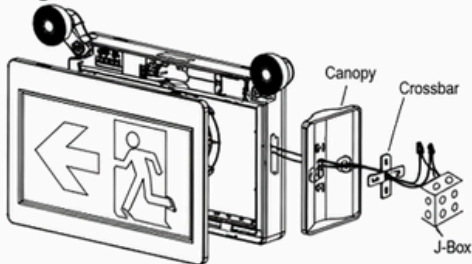

Fig 4
2. Using a flat head screwdriver, insert the blade into the two slots and pry off the front cover (see figure 4).
3. For ceiling and side mounting purpose, remove the mounting hole cover on the top or side of the unit, assemble the canopy (see Fig 4,5,6).